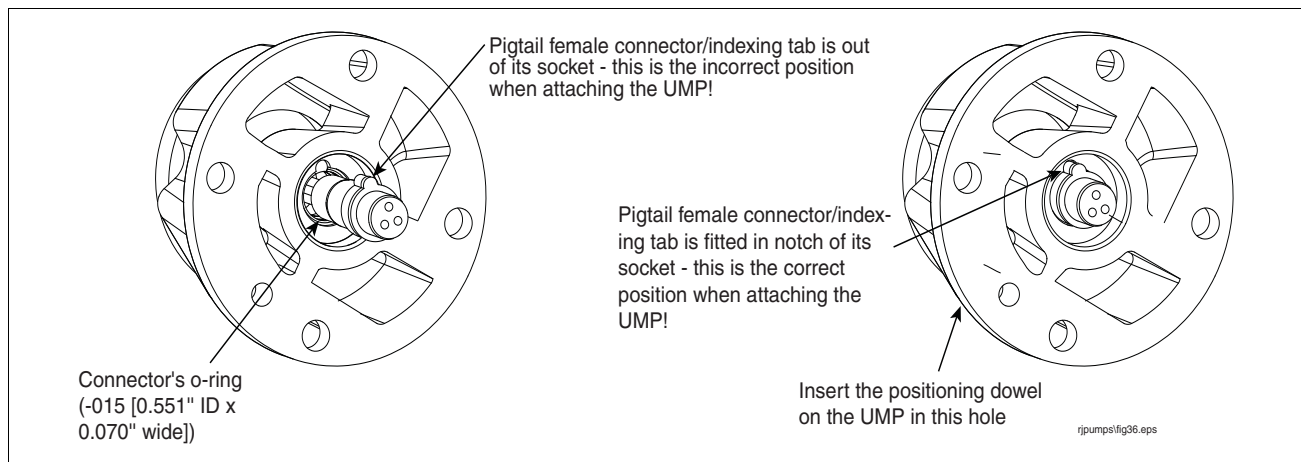

Figure 31. Verifying Pigtail's Female Connector Is Seated Properly
6. Pull the pigtail connector in the discharge head out far enough to see the o-ring in the sidewall of its socket (see Figure 31). Remove the connector's o-ring from the connector's socket and discard it. Get a 0.551" ID x 0.070" wide o-ring from the kit and lubricate it with petroleum jelly. Slide the new o-ring over the pigtail connector and push it in the groove in the wall of the connector's socket. Lubricate the pigtail connector body with petroleum jelly and push it back into its socket, making sure its index tab is in the socket's notch.
7. Align the UMP positioning dowel so it inserts in the proper hole in the discharge head (see Figure 31) and push the UMP into position using hand force only. The UMP should be snug against the discharge head prior to installing the UMP retaining bolts.